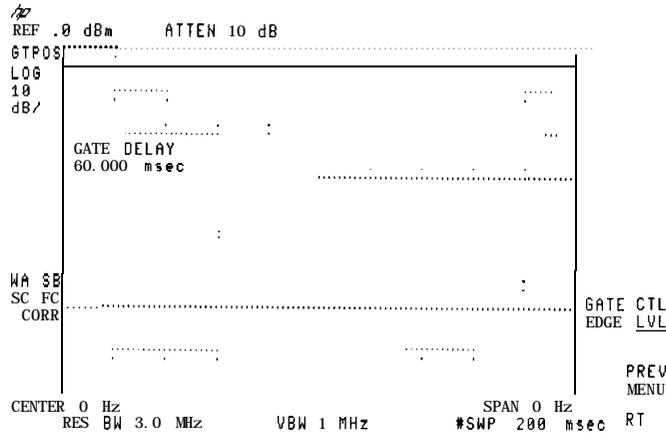

Figure 4-33. Using the Level Gate Control
4. To check the gate control function, press **SWEEP**, Gate Control, GATE CTL EDGE LVL so that LVL (level) is underlined (see Figure 4-33).